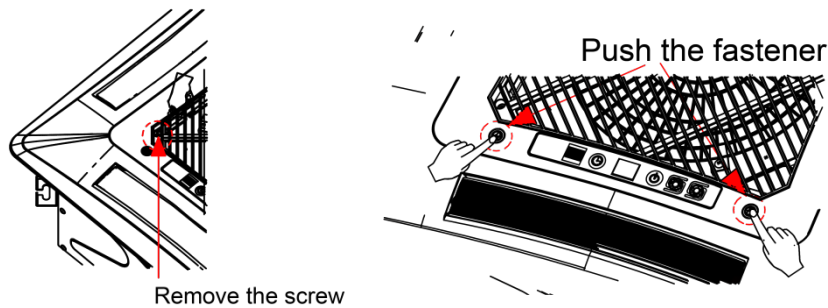

Fig.4.4.4
- (1) Detach the panel's Corner Cap, there is a mark "piping side" on one of the 4 corners, adjust the panel direction so as to keep the mark and fittings on the same corner, as shown in Fig.4.4.4.